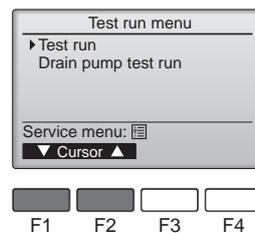

Fig. 7-2
- ② Select "Test run" from the Test run menu, and press the [SELECT] button. (Fig.7-2)
- ③ The test run operation starts, and the Test run operation screen is displayed.